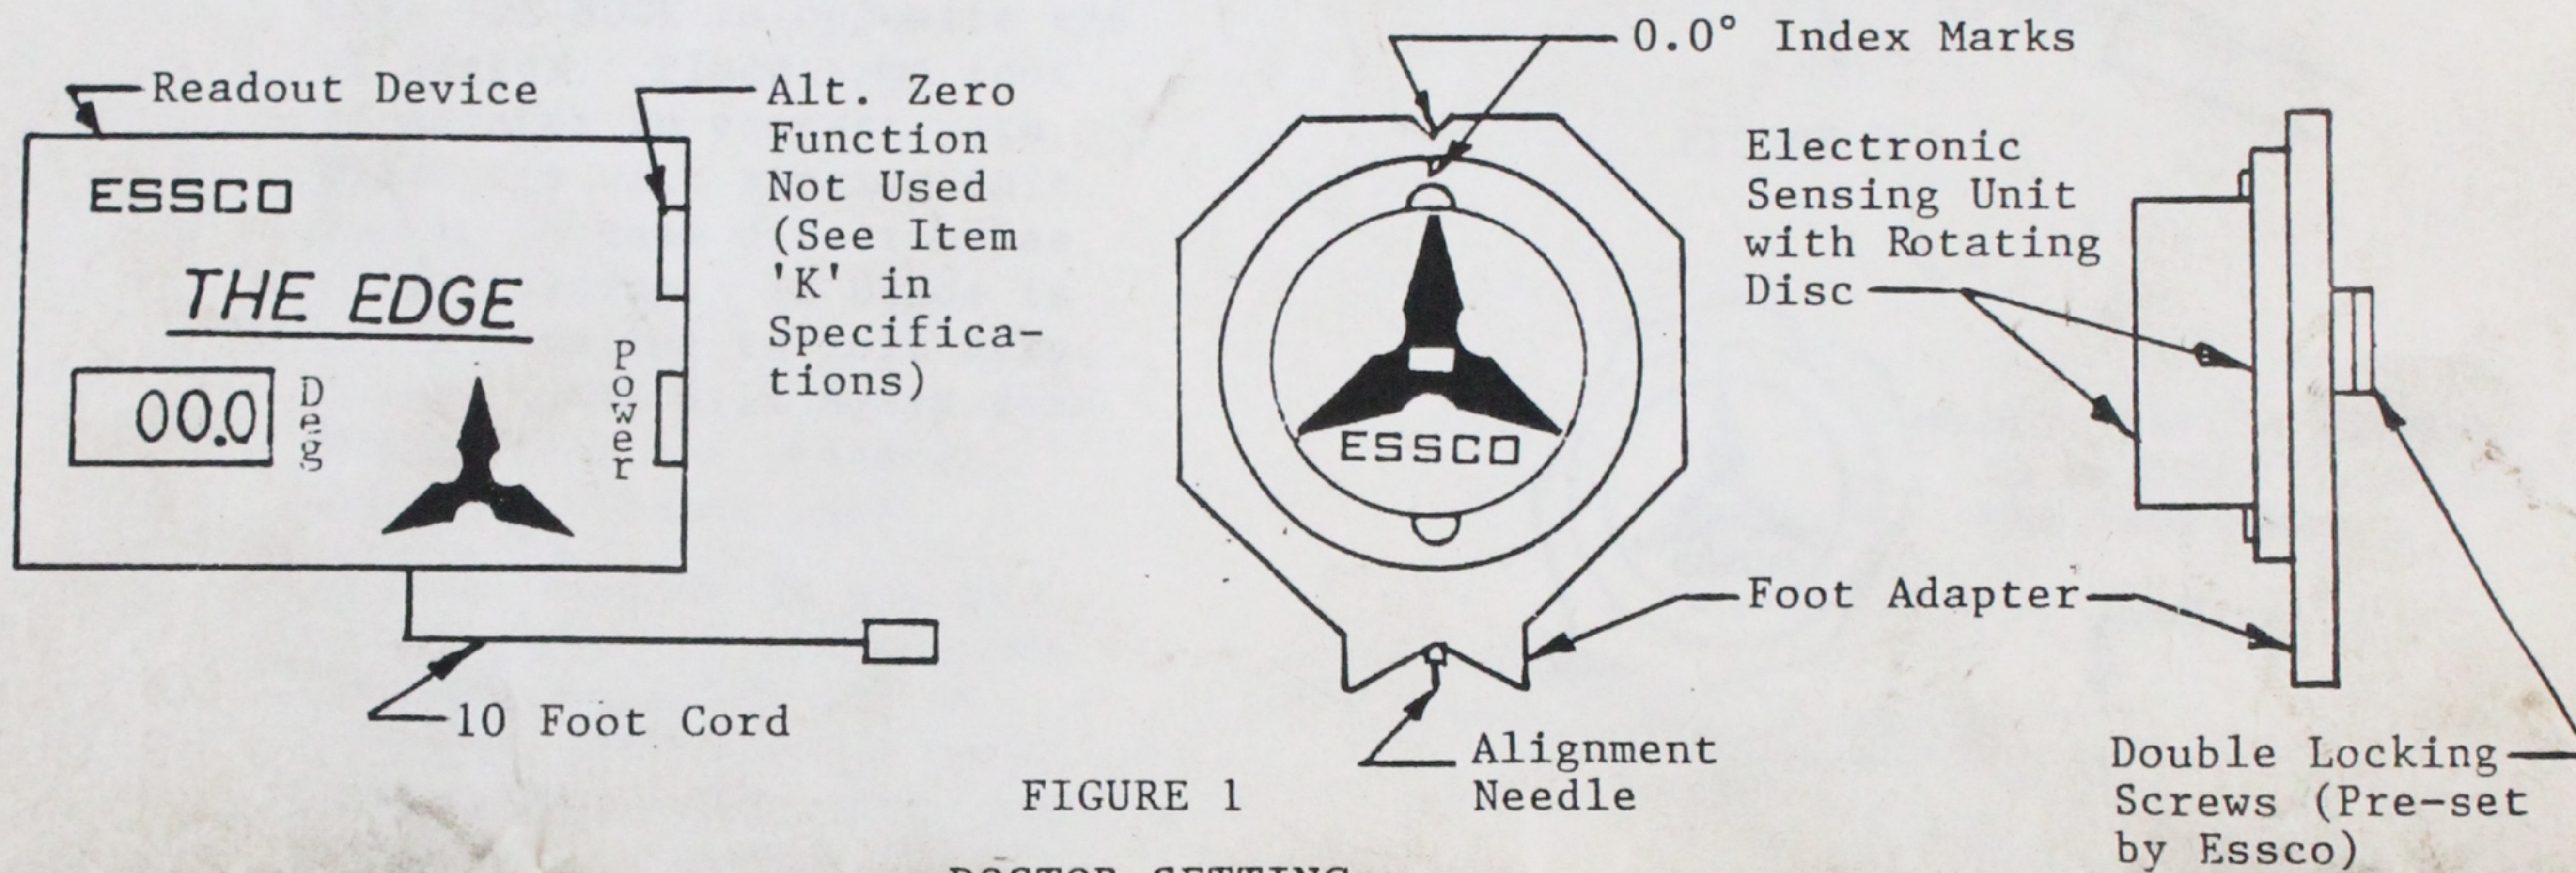

FIGURE 1
A. Blade Angle Setting or Determination (Refer to Figures 1 & 2)